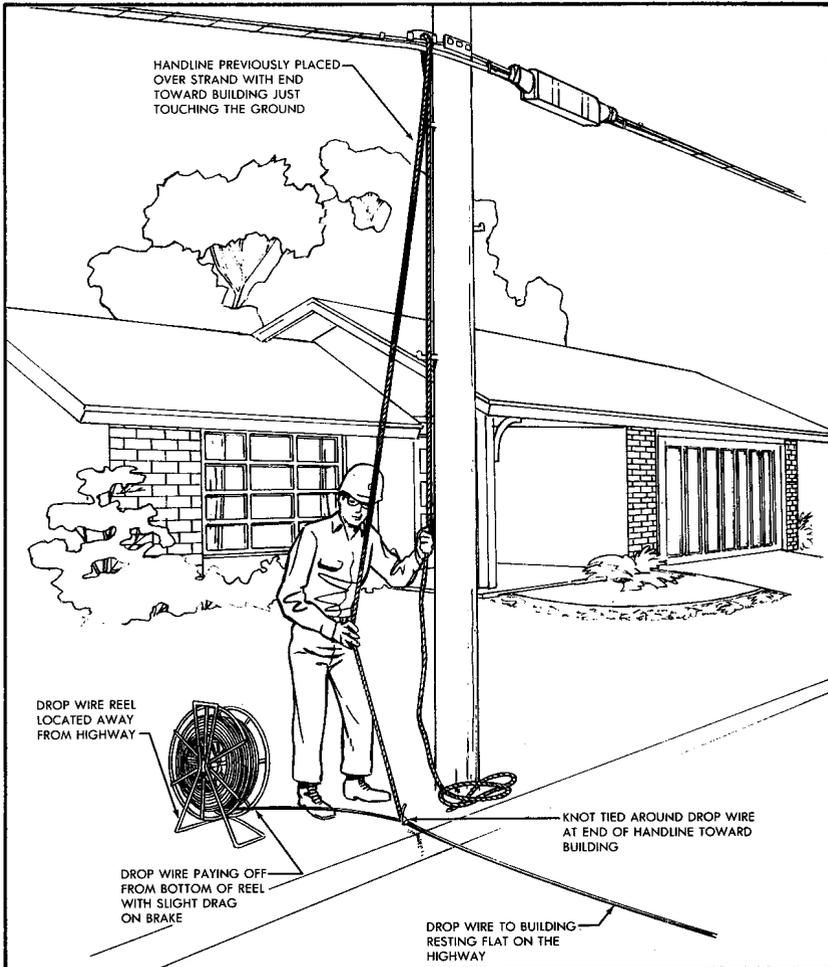

FIGURE 3. Preparing to Raise the Drop Wire
e. Release the handline from the base of the pole or ladder, and tie a bowline knot in the end of the handline toward the building and around the drop wire at the reel. See Figure 3. Be careful not to raise the wire above the